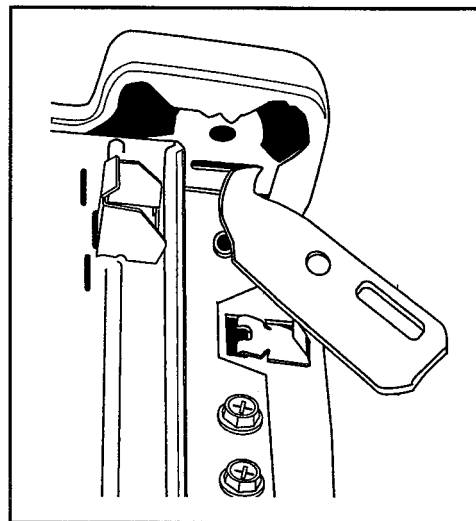

Figure 5-5
3. To remove the hold down brackets, swing the bracket to the outside and unhook the bracket from the slot in the top cover lip. (See Figure 5-5)